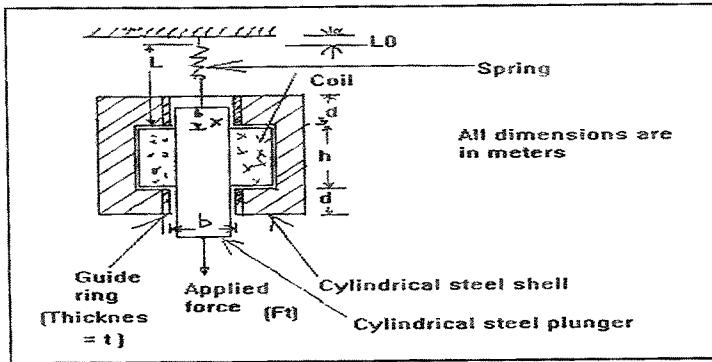

Fig.2
3. Cross section of a cylindrical solenoid magnet is shown in fig.2; which shows the cylindrical plunger of mass 'M' kg. moves vertically in brass guide rings of thickness 't' meter and mean diameter 'b' meter . The permeability of brass is the same as that of free space. The plunger is supported by a spring whose elastance is 'K' newtons/m. Its